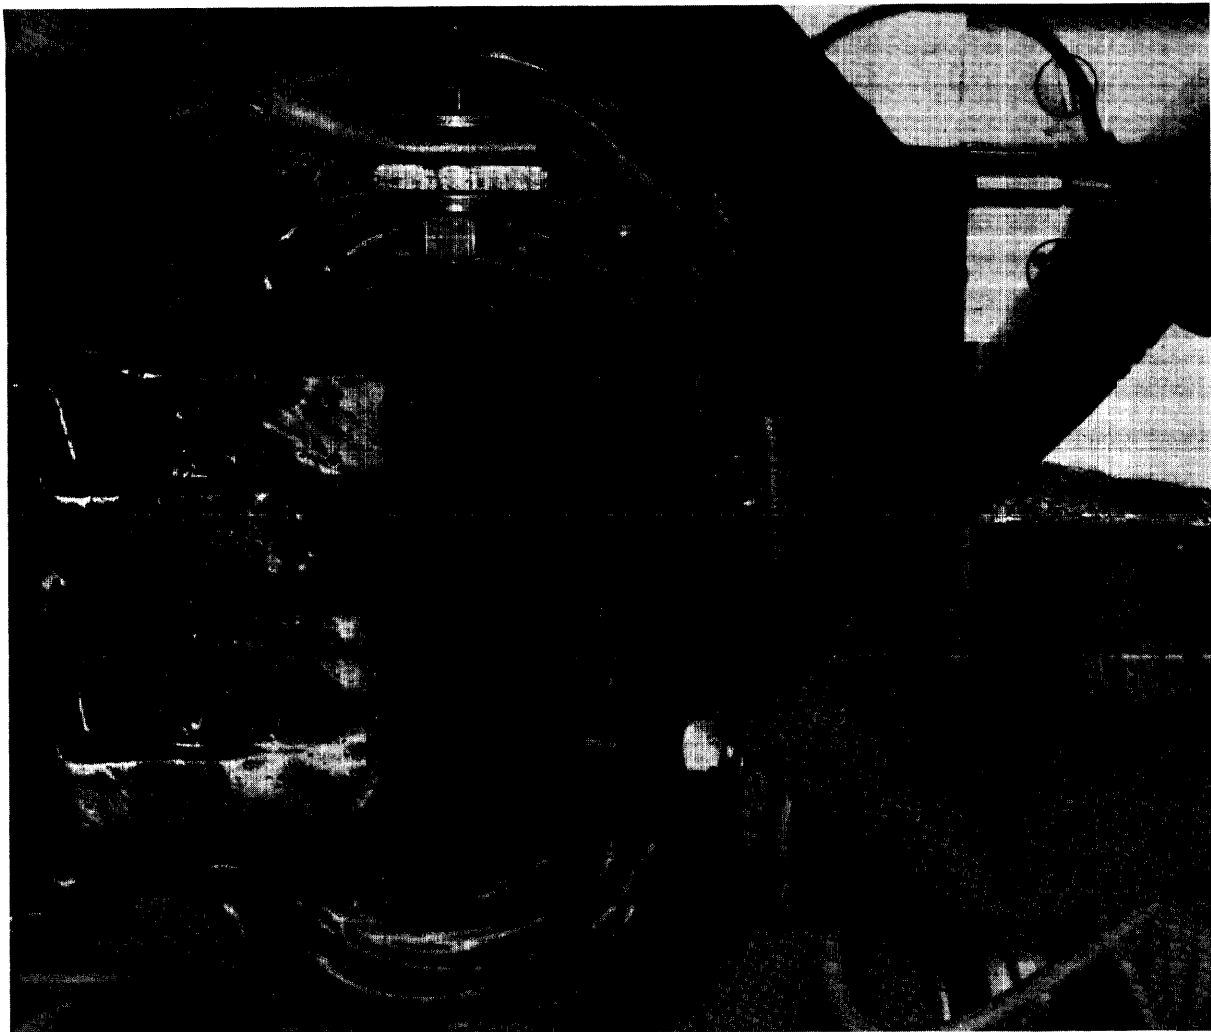

Figure 4-11. Transformer T2 Test Connections
- b. Connect the oscilloscope from transformer T2 pin 3 (probe) to pin 4 (ground clip). Refer to figure 4-11.